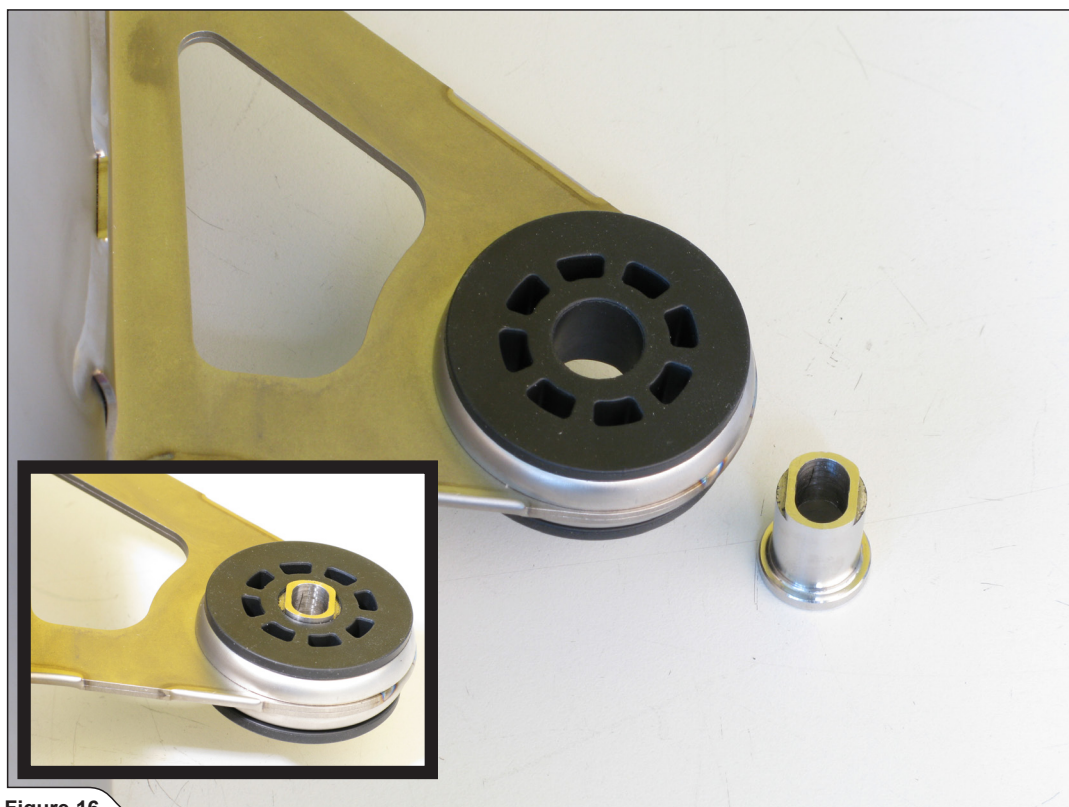

Figure 16
14. Insert the sleeve from Akrapovič installation kit, into the rubber muffler's bracket, as shown **(Figure 16)**.